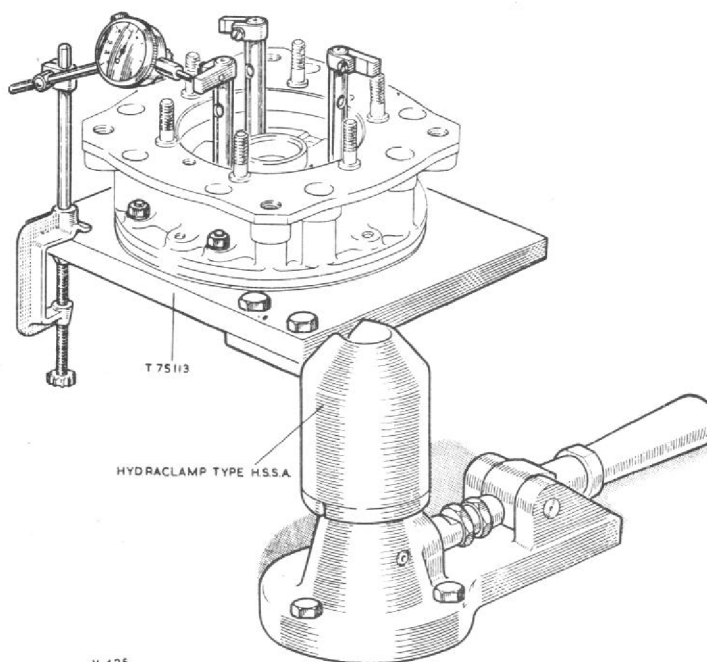

Fig. 10. Checking the backlash between the planet gears and the annulus gear
- (2) Using two set-screws, secure adapter T78397 to Hydraclamp type H.S.S.A.; secure workplate T75113 to the adapter by two slave bolts and nuts; using four plain washers and nuts, secure the starter assembly to the workplate.
- (3) Using a dial test indicator clamped to a convenient stud, check that the backlash between the planet gears and the annulus gear (fig. 10) is within the limits.
- (4) Remove the three backlash checking fixtures from the spindles and the assembly from the workplate.